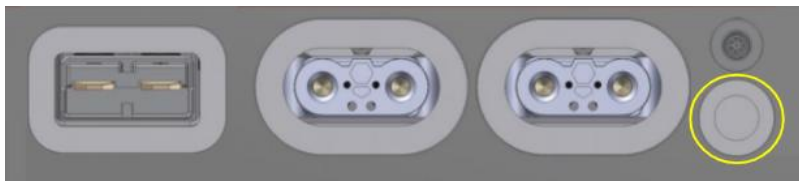

Figure 23: No lights are illuminated, battery is OFF. Circular LED indicated in YELLOW.
1. Place the magnet against the circular LED and hold for 3 seconds (Figure 23).
1. **Restart the battery using a magnet:** Place the magnet against the circular LED and hold for 3 seconds (Figure 23).